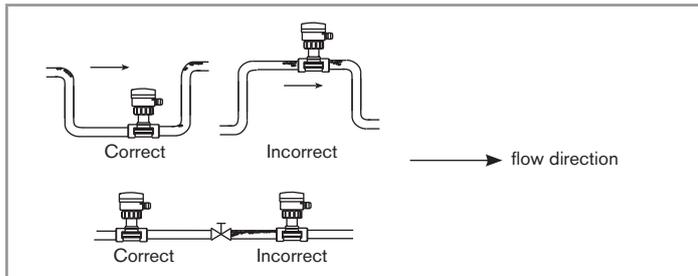

Fig. 10 : Air bubbles within the pipe
- Prevent the formation of air bubbles in the pipe in the section around the device (see Fig. 10).